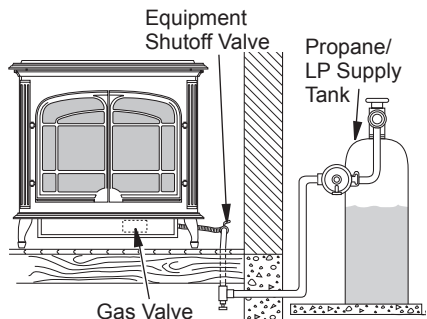
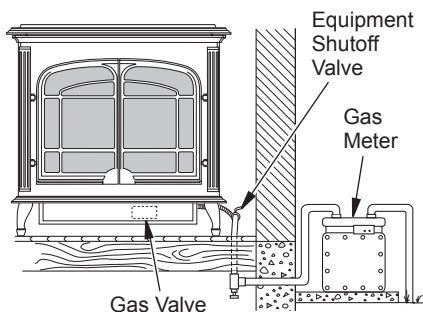

Figure 18 - Checking Gas Joints for Propane/LP Gas Burner System
Figure 19 - Checking Gas Joints for Natural Gas Burner System
3. Check all joints from propane/LP supply tank or gas meter to equipment shutoff valve (see Figure 18 for propane/LP or Figure 19 for natural gas). Apply noncorrosive leak test solution to all gas joints. Bubbles forming show a leak. Correct all leaks at once.
4. Check all joints from equipment shutoff valve to thermostat gas valve (see Figure 18 for propane/LP or Figure 19 for natural). Apply commercial leak test solution to all gas joints. Bubbles forming show a leak. Correct all leaks at once.